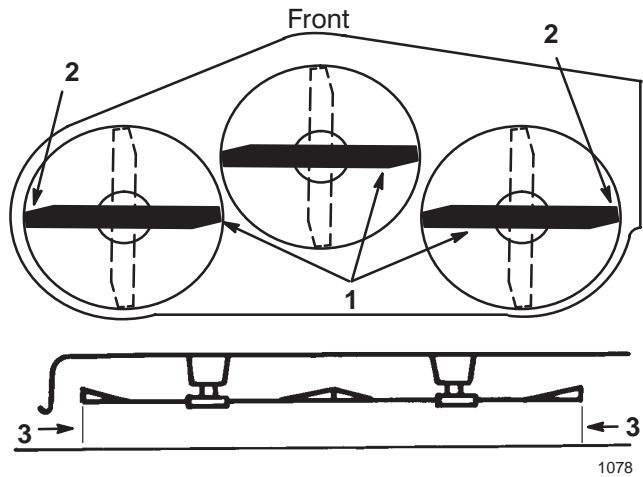

Figure 38
6. Carefully rotate the blade(s) from side to side (Fig. 38). Measure between the outside cutting edges and the flat surface (Fig. 38). If both measurements are not within 3/16 inch (4.75 mm), an adjustment is required; refer to steps 7 and 8.